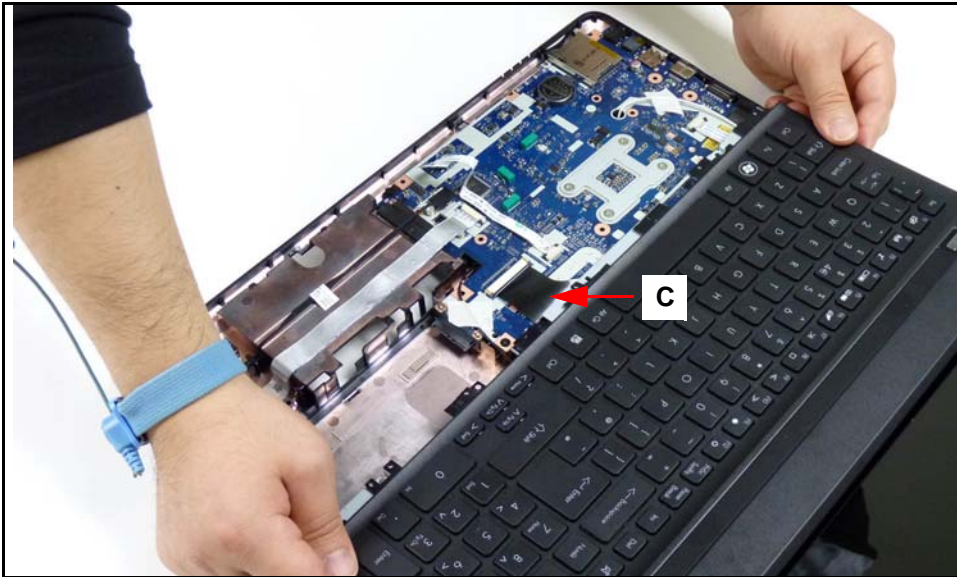

Figure 3-34. Exposing Keyboard FPC
4. Move upper cover until keyboard FPC is visible. (Figure 3-34)
3. Move upper cover to until aligned with lower cover latches and keyboard FPC is not visible. (Figure 3-34)